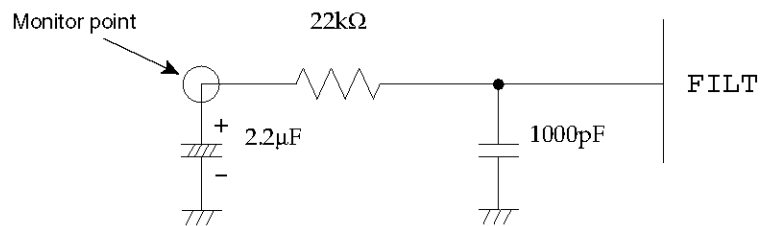

Figure 10 FILT Recommended Circuit
- Adjust the voltage of monitor point in figure 10 to $1/2 V_{DD} \pm 10\%$ by the LC oscillation constant 'L' or 'C' to lock the PLL circuit.